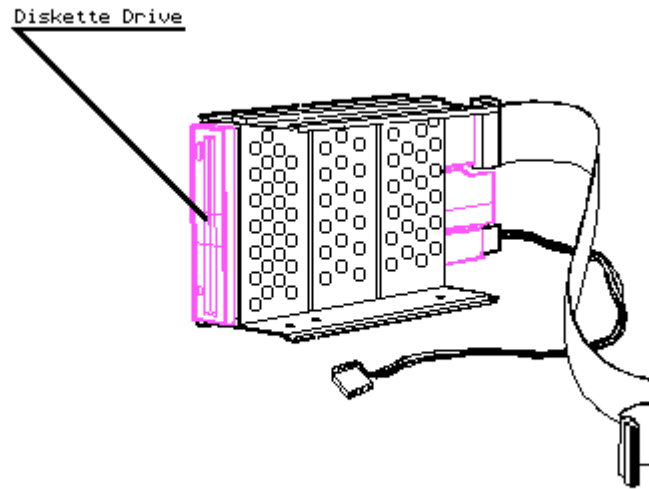

Figure 8-47. Diskette Drive Location
4. Locate the diskette drive shown in Figure 8-47.